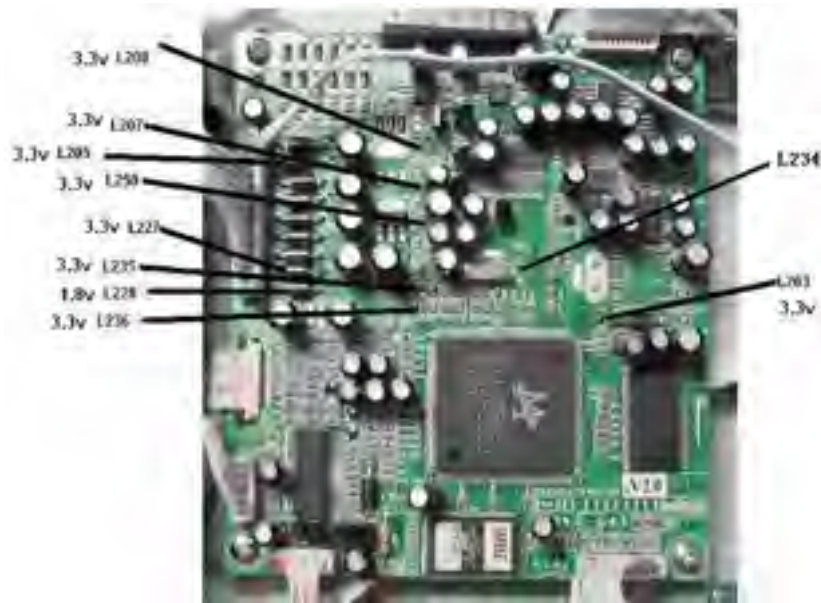

Figure 3.5.2.1 Checking point illustration of MT1389 power supply voltage
2. There are so many pins of MT1389 that it is very difficult to check voltage of power supply pins directly. To make readers test it more easily, the following flow chart and the corresponding elements are list out, shown as the figure 3.5.2.2: